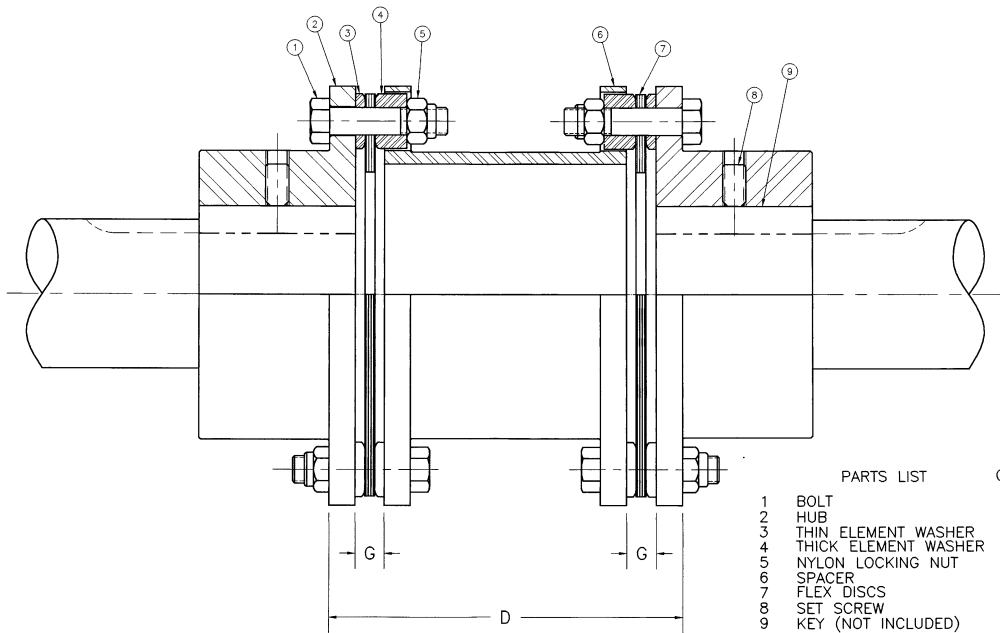

FIGURE 1
1. Move the equipment to be connected into position. Set the gap between the hub faces to the required distance between shaft ends, “D” dimension in Figure 1. Set the average gap between flanges to the “G” dimension shown in Table 1 for the proper size coupling.